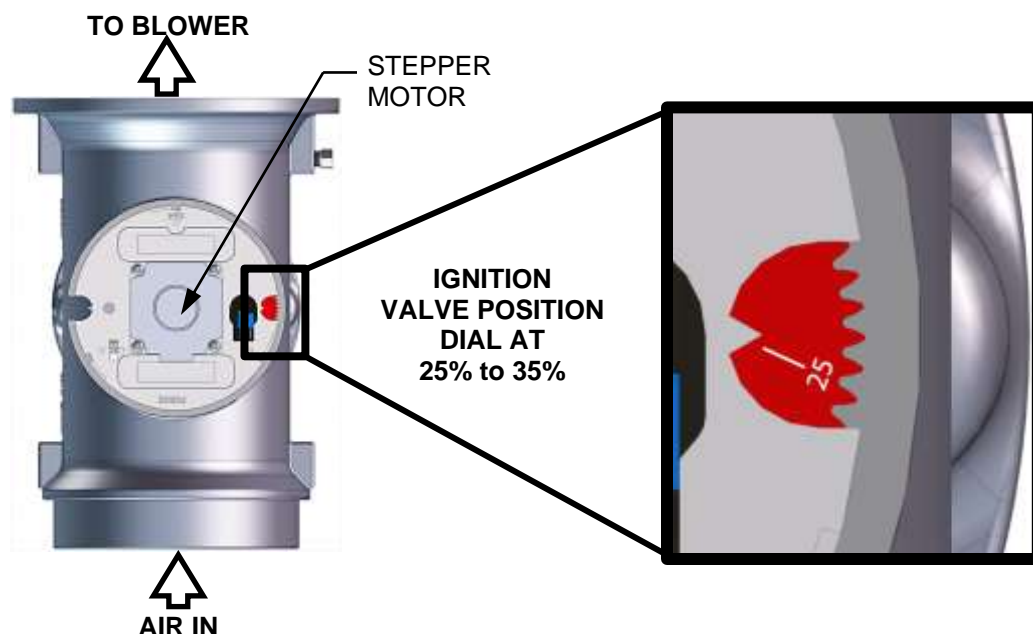

Figure 3-5: Air/Fuel Valve In Ignition Position
- a) The Air/Fuel Valve rotates to the low-fire (Ignition) position and closes the ignition switch. The Dial on the Air/Fuel Valve (Figure 3-5) will read between **25** and **35** to indicate that the valve is in the low fire position.